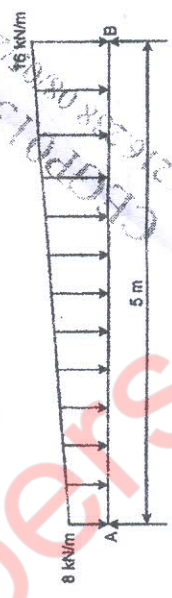

Fig.3
5. a) A simply supported beam of span  $5 \text{ m}$ , intensity of loading increases uniformly from  $8 \text{ kN/m}$  at one end to  $16 \text{ kN/m}$  at the other end as shown in fig. 3. Find the position and magnitude of the maximum bending moment. Also Draw Shear Force & Bending Moment Diagram [6]